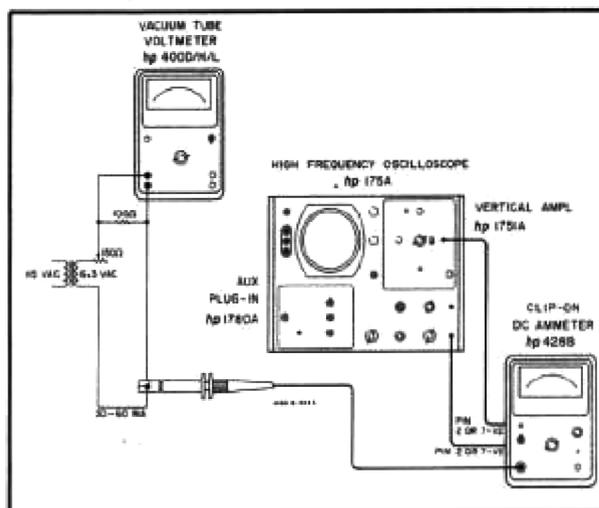

Figure 5-5. Detector Phase Adjustment Setup
a. With Q1 still grounded connect the vertical input of an oscilloscope to pin 7 of V2 and the horizontal input to pin 7 of V5. Clip Model 428B probe around wire carrying 5 ma ac (0.5 volt ac across 100 ohms monitored by an external meter, see figure 5-5).
Connect an ac voltmeter, such as the  $\text{\textcircled{P}}$  Model 400D/H/L to pin 2 or 7 of V2. Set 400D/H/L to 1 volt range. Clip 428B probe aroundwire carrying 35ma rms ac monitored by an external meter as appears in the ac generator portion of figure 5-5. Adjust 150 ohm potentiometer for 3.5 vac across the 100-ohm resistor. Set 428B RANGE switch to 100 MA. Keep this setup for the next three steps.
Clip a 390 ohm resistor across the "FEEDBACK DISCONNECT" terminals. Connect the horizontal input of an oscilloscope, such as  $\text{\textcircled{P}}$  Model 140A/175A, to pin 2 or 7 of V5. Connect vertical input to pin 2 or 7 of V2. Leave 428B probe aroundwire carrying 35ma ac (3.5 volt ac) across 100-ohm monitored by an external meter (see figure 5-5). Turn 428B to 100 ma range. Turn slug L7 so pattern on oscilloscope looks like a "bow tie" with its knot symmetrical (see figure 5-6A or B). Note that in addition to the top and bottom intersections being in a vertical line, the center section must be free of traces. It is possible to get the top and bottom intersections in a vertical line with traces in the center section, but this is not a correct adjustment. Lock L7. Figure 5-6C illustrates an incorrect adjustment with the top intersection, not over the bottom intersection. Remove 390-ohm resistor.